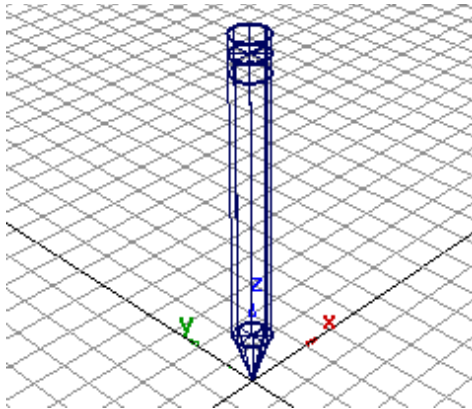

Figure 2-119 Model after creating the eraser holder
4. Enter **0, 0, 950** in the promptline and press ENTER; the eraser holder is created in the window, as shown in Figure 2-119.